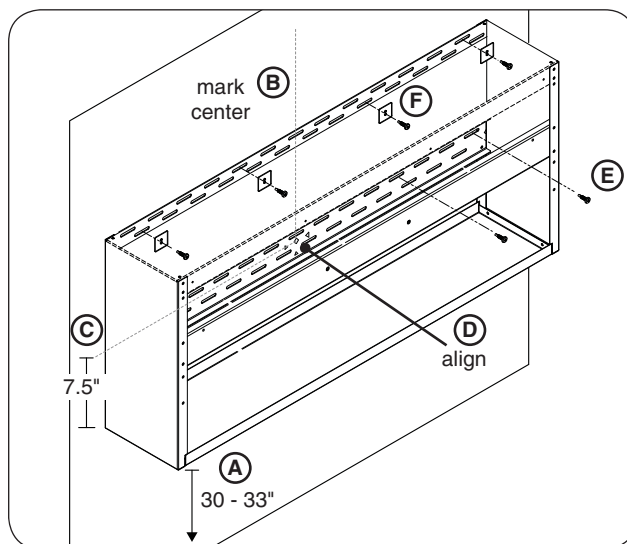

Fig. 11-4 Install Fire Magic spacer (36" shown)
2. Determine the install location of the spacer (30-33" above the grill). Locate the "left-to-right" center, and pencil a vertical line on the rear wall. Then pencil a horizontal line 7.5" up from the bottom of the spacer (see Fig. 11-4, A-C).
3. Place the spacer over the two lines. Use the alignment notches found on spacer's center-rear bracket to aid in proper location and leveling (see Fig. 11-4, D).
4. Using appropriate mounting hardware for the rear wall construction; secure the spacer (via the center-rear bracket) into the rear wall (see Fig. 11-4, E).
5. Next use additional mounting hardware, and the support plates (supplied with spacer), to secure the top-rear of the spacer into the rear wall (see Fig. 11-4, F).